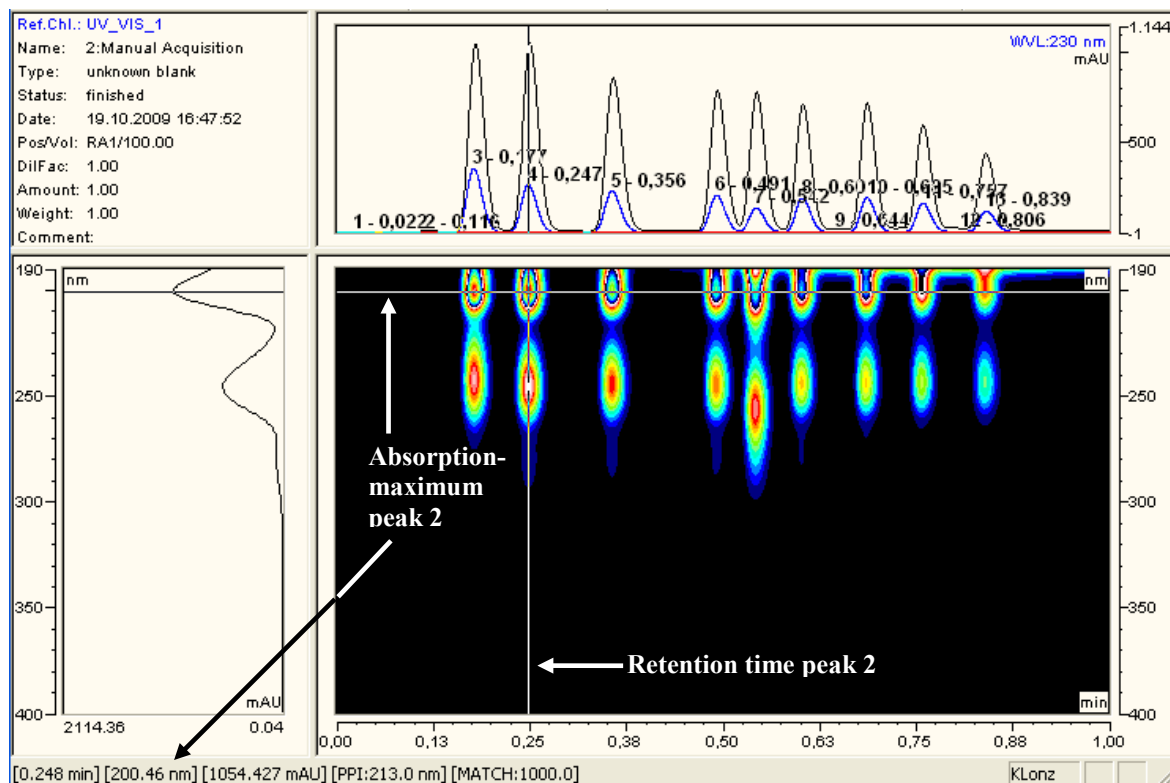

Fig. 34: 3D data recorded with a diode array detector
1. Use a sample with a concentration that is suitable for diode array detectors (for example, 100 ng/μL) and run an analysis with the DAD, recording a 3D field. You can extract the retention times and absorption maxima, and thus the optimum excitation wavelengths, of each sample component from the Chromeleon 3D plot (→ Fig. 34, page 79).